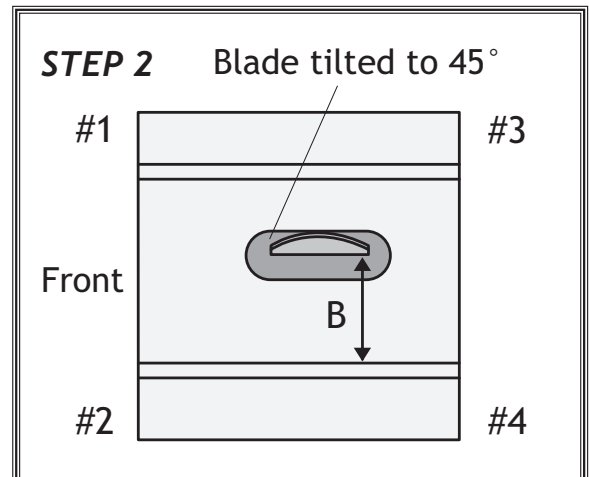

Figure 69. Measuring blade to miter slot at point B.
12. If measurement "B" (**Figure 69**) is shorter, then corners #3 and #4 need to be shimmed.